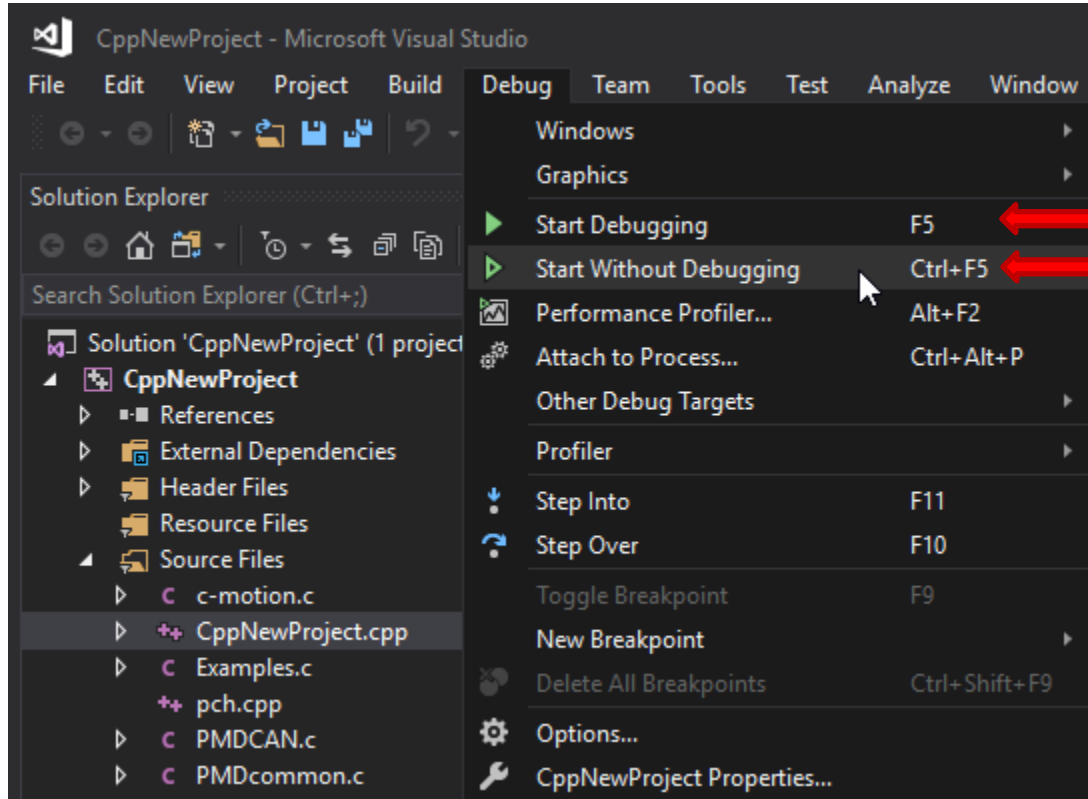

Figure 67 - VS2017 Debugging C#
- 13) To debug the program, select debug, and either Start Debugging, or Start Without Debugging per Figure 67 - VS2017 Debugging C#